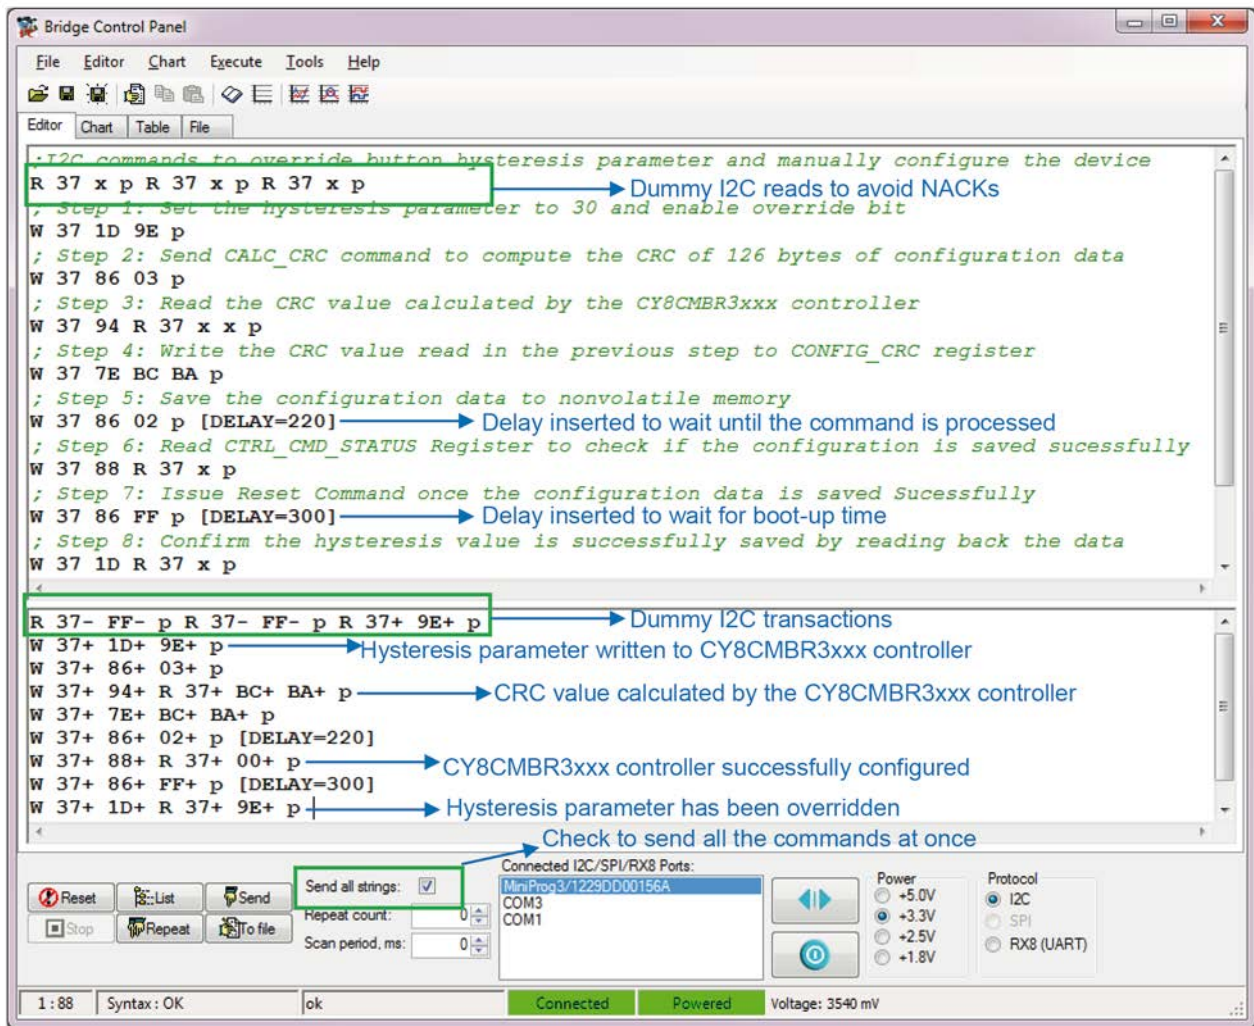

Figure 5-25 Calculating the CRC Using CY8CMBR3xxx Controller
- Use the CY8CMBR3xxx controller to calculate the CRC value: The CY8CMBR3xxx controller calculates the checksum of the configuration data when a CMD_OP_CODE value of '3' is written to the CTRL_CMD (0x86) register, as shown in Figure 5-25. The calculated CRC value will be stored in the CALC_CRC (0x94) register after 220 ms. The user has to read the CRC value from the CALC_CRC (0x94) register and manually write it to the CONFIG_CRC (0x7E) register. This method should be used only during testing and debugging the CY8CMBR3xxx controller. For configuring the CY8CMBR3xxx controller in production, use the CRC API provided with the Host APIs.